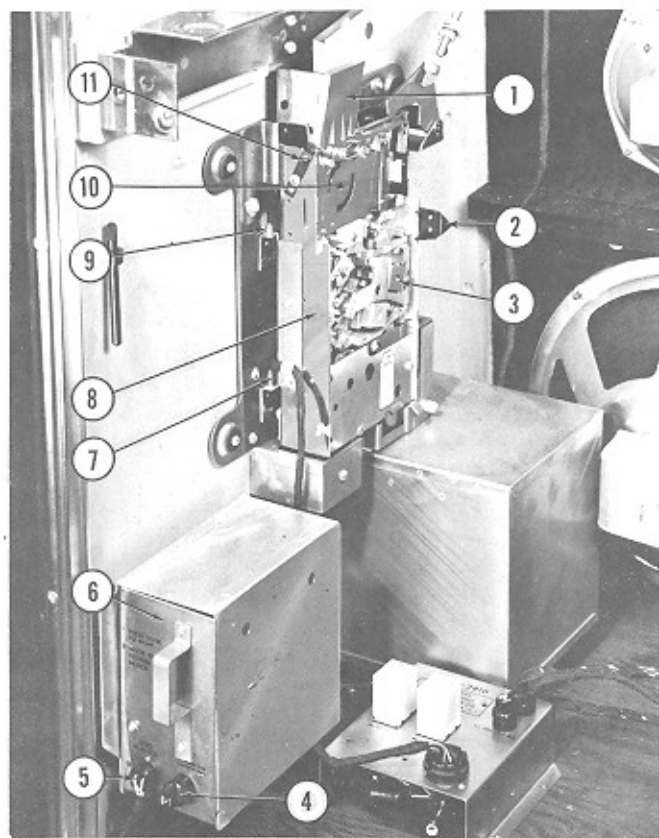
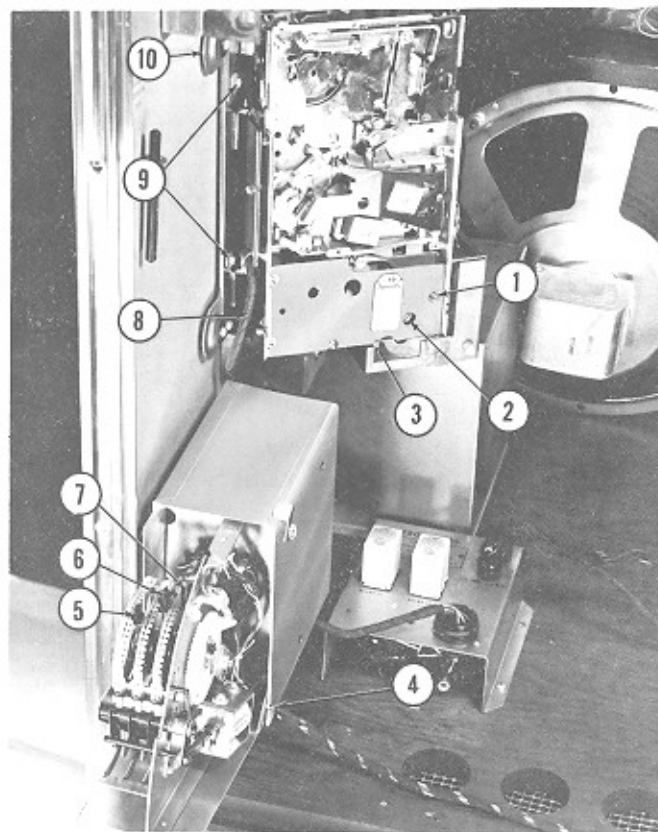

FIG. 1. COIN EQUIPMENT
FIG. 2. COIN EQUIPMENT
The Coin Equipment used on all Wurlitzer phonographs of the 2800 series consists of the National Coin Separator (Fig. 1, Item 10), The National Nickel, Dime, Quarter and Half Dollar Slug Rejector (Fig. 1, Item 8) and the Wurlitzer Coin Register Mechanism (Playrak) (Fig. 1, Item 6).
The Playrak of the 2800 series phonograph is accessible for service after swinging down into the position as shown in (Fig. 2). The front plate of the Playrak is cut back to provide clearance for raising the unit and disengaging its hinge pins, one of which is shown at Item 4.
The complete Slug Rejector Assembly is mounted on two Hinge Pins (Fig. 1, Items 7 and 9) and may be pivoted as shown in Figure 2 by raising the Lower Coin Chute (Fig. 1, Item 1) and releasing the Spring Latch (Item 2). This provides convenient accessibility for service to the coin mechanism.
The Slug Rejector Assembly may be removed from the phonograph when in its unlatched, open position, as shown in Figure 2, by disconnecting the Five Prong Plug from the Playrak (Fig. 1, Item 5) and disengaging the two Hinge Pins (Fig. 1, Items 7 and 9). The Coin Separator (Fig. 1, Item 10) may be removed from the Mounting Channel and 50¢ Slug Rejector (Fig. 1, Item 8) by releasing the Latch Spring (Fig. 1, Item 11). After the Coin Separator has been removed, the 5-10-25¢ Slug Rejector (Fig. 1, Item 3) may be lifted out of the mounting.
b. The Slug Rejector Assembly is adjustable by loosening six mounting screws, two of which are shown in Figure 2. The elongated mounting holes provide leveling adjustment front to back. Tighten the mounting screws and check for proper coin acceptance after adjustment.
(Fig. 2, Items 1 and 2) and setting the Nickel Flipper (Fig. 2, Item 3) in the position which will cause each nickel to actuate the 5¢ coin switch. Replace the screws (Fig. 2, Items 1 and 2) in their reverse positions, thus holding the nickel flipper in the 5¢ play position. Replace the slug rejector and reset the three accumulator wheel Stop Levers (Fig. 2, Items 5, 6 and 7) to the required number of credits for dimes, quarters and half dollars.
A pulse of more than three seconds duration should normally blow the 8/10 ampere fuse (Fig. 1, Item 4) in the coin magnet circuit.